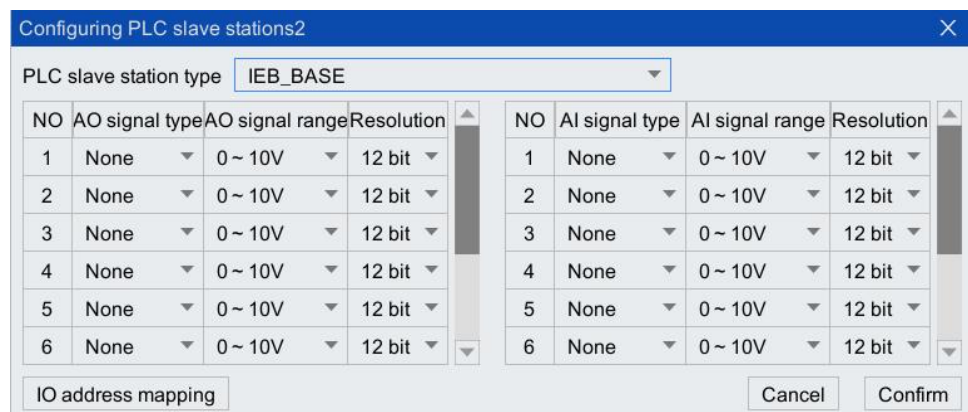
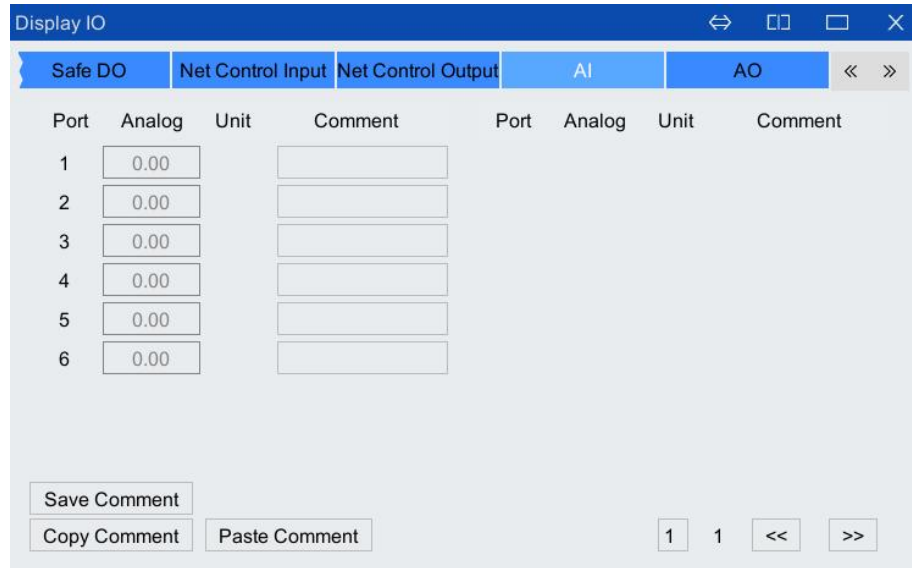
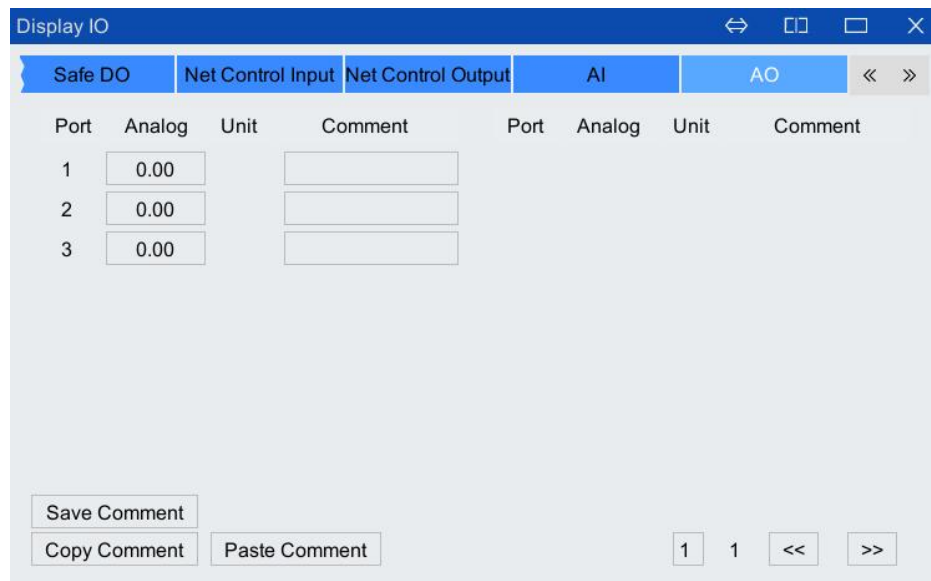

Figure 6-17 IEB_BASE slave configuration
Figure 6-18 "AI" Real-time display of analog in the interface
Figure 6-19 Real-time display of analog quantity in "AO" interface
Step2. Configure IEB_BASE slave station. Please refer to Chapter 8.3.4 for the configuration method. Please refer to Figure 6-17 for the completed configuration interface.
Step4. The "Port Number" 1-6 shown in Figure 6-18 corresponds to the "AI signal type" 1-6 in Figure 6-17; the "Port Number" 1-3 shown in Figure 6-19 corresponds to Figure 6-17. The "AO signal type" in 1-3 corresponds to 1-3. Please refer to Table 6-10 for the setting description in the "AI/AO" interface.